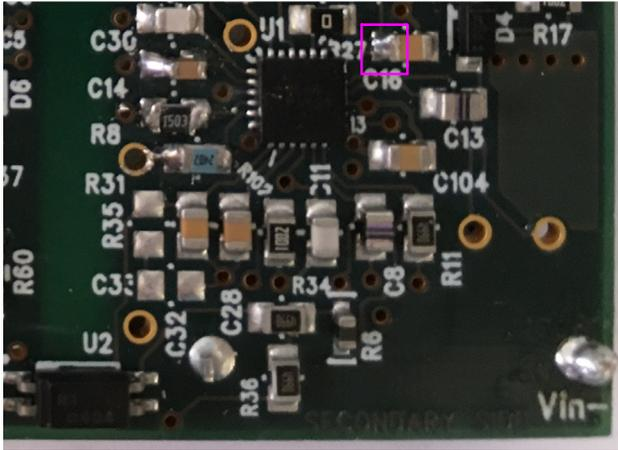
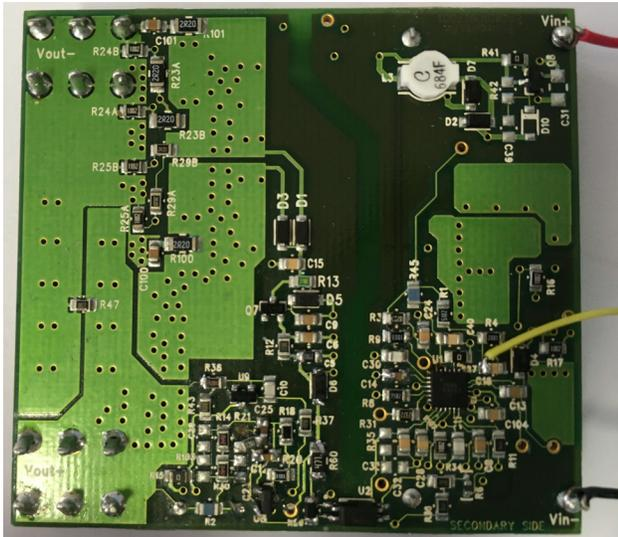

Figure 3. UVLO on NCP1566EVb
Figure 4. NCP1566EVb with Wire Connections
Step 1: Solder a wire on the undervoltage (UVLO) control connection of the NCP1566 DC/DC converter EVB: e.g. on the pad of capacitor C16 (highlighted by a rectangle in Figure 3 and at the end of the yellow wire in the Figure 4).